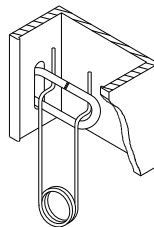

Fig. 4-3
1. Insert the leading horizontal link into its corresponding slot in the channel. Then place the chain retaining spring into the chain link as shown in Fig. 4-3. Repeat this procedure on all horizontal chains.